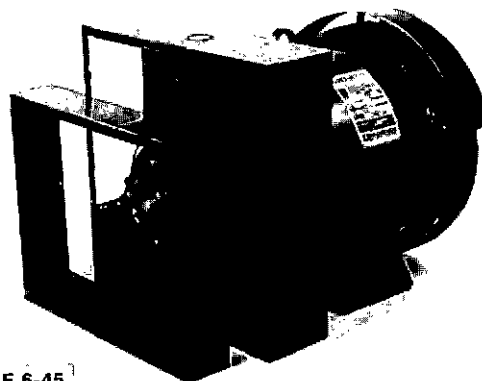

FIGURE 6-45
2. If unit is equipped with the PMG, install the conduit box extension ring. (Figure 6-45.)